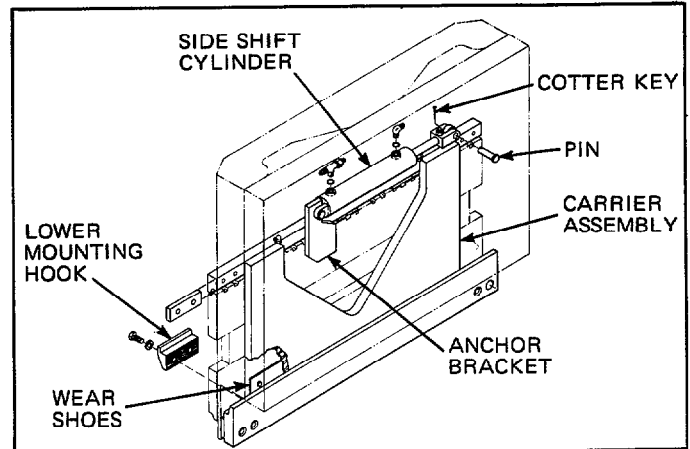

Figure 2. Cylinder, Mounting Hooks, and Wear Shoe Location
- Remove the sideshift cylinder anchor bracket if it is attached to the cylinder (the bracket may be in a separate shipping bag). See Figure 2.
7. Insert the two wear shoes (contained in the bag accompanying the attachment) in the holes provided on the attachment. See Figure 2. Coat the bearing surface of the wear shoes with a graphite base lubricant.